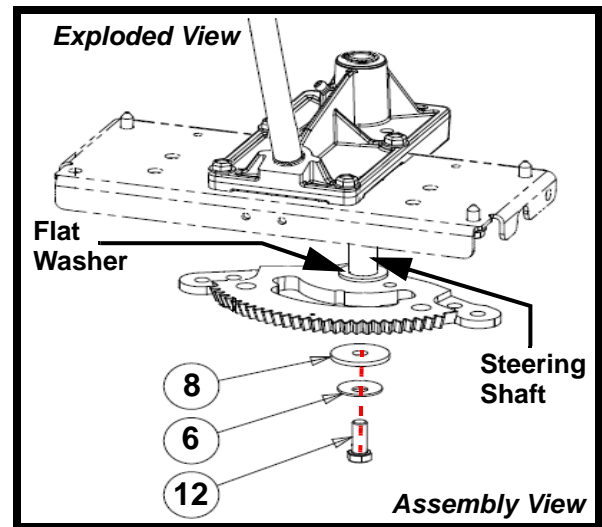

FIGURE 9
20. Raise the segment gear with the left and right drag link assemblies up to the steering shaft. See Figure 9.
21. Make sure the flat washer is positioned so that the steering shaft passes through it and then in to the segment gear. Figure 9 is an exploded view to show the steering shaft passing through the flat washer and into the segment gear.
22. Install item #6 (736-0331) bevel washer (cup side away from screw head) over item #12 (710-0591) 3/8-24 x 1.00" hex head cap screw with patch lock. See Figure 9.
23. Install item #8 over item #12 (710-0591) 3/8-24 x 1.00" hex head cap screw above item #6 (736-0331) bevel washer. See Figure 9.